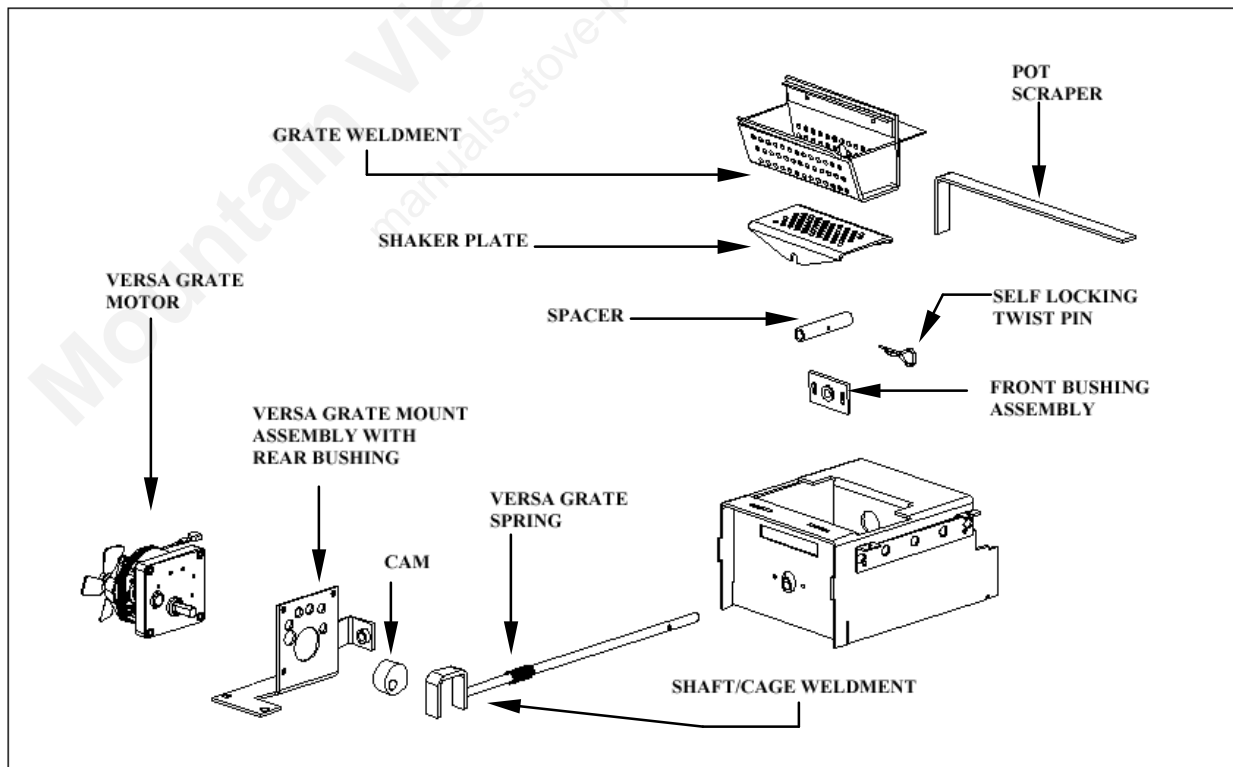
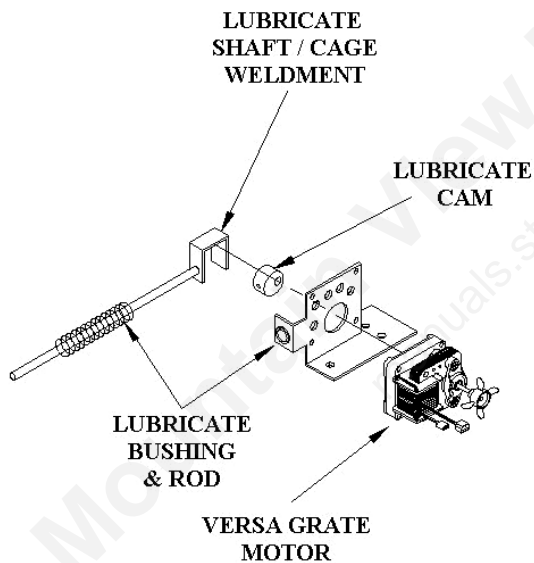

Figure 5
Figure 11
All models are equipped with the Versa Grate System (see Figure 5 below). The benefit of this feature is that the stove can operate for longer periods of time, with most fuels, without the grate requiring cleaning. If the flame becomes dark orange, is accompanied by black smoke or burns with a lazy motion - it's time to clean the grate.
**The Versa Grate System** – First, let's become familiar with the burn system in a St. Croix Pellet stove. The system in the York Insert is a little different than in the Freestanding models (See Fig 5 below). There is a 2-piece burnpot. The top Part is called the "Grate Weldment". This sits on top of the "Shaker Plate". This in turn sits on top of the "Shaft/Cage Weldment" and is held in place with the "Spacer" & "Self Locking Twist pin". The Shaft/Cage weldment is moved towards the front of the stove and then towards the back of the stove by the "Cam" that is connected to the "Versa Grate Motor". This motion is constant while the stove is in operation. The only parts that may need to be removed for cleaning purposes during the Daily or Periodic Maintenance are the "Grate weldment" and the "Shaker Plate". The holes in the burnpot will get plugged with use and should be checked regularly.
1. Check Grate Weldment and Shaker Plate (See figure 5) to determine if holes are plugged. Clean as needed. With proper precautions the grate may be partially cleaned while the stove is hot. Follow these steps:
- d. Use the “scraper” provided to move the burning pellets to one side of the grate, leaving the ash in the bottom of the grate. (See Fig 5 & 6)
3. Clean holes in the Grate Weldment and Shaker Plate at least weekly. Remove the burn grate and use a small metal object to clean out plugged holes (See figure 5).
7. With the Room Fan removed you have easy access to the **Versa Grate system**. This should also be lubricated on a yearly basis with some High Temp Anti-Seize (can be purchased at a local car parts store). There are several areas to lubricate (see figure 11 below). They are: the Cam, Rear Bushing & Rod of the Shaft/Cage Weldment and the Front Bushing (for location of the front bushing see figure 5 on page 9, it is located in the front of the stove, below the Grate Weldment and Shaker Plate in the Firebox).